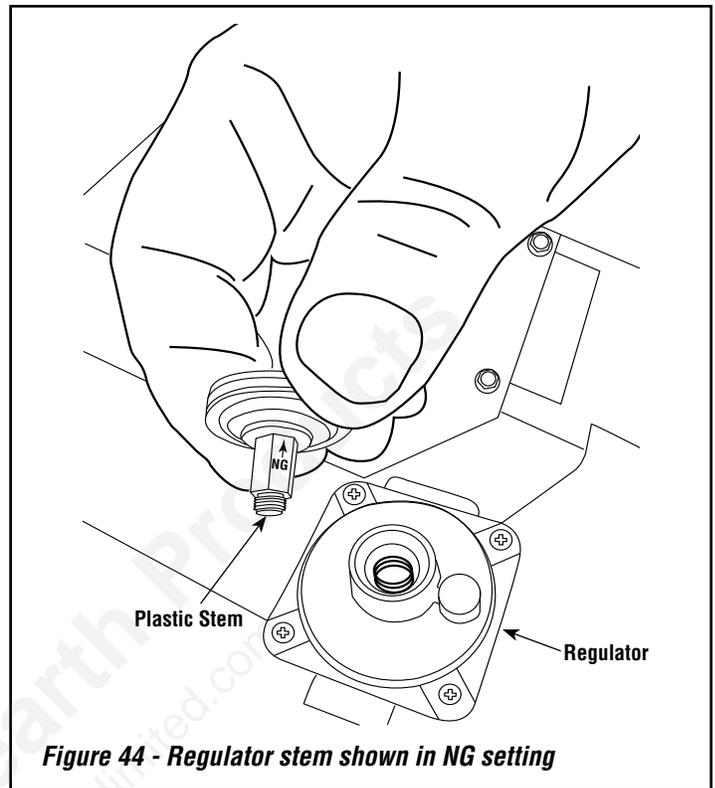

Figure 44 - Regulator stem shown in NG setting
Step 5. On the underneath side of the aluminum cap is a plastic stem. Using a 6mm wrench remove the stem, unscrew the stem (counter-clockwise ↺), turn it over and install the opposite end back into the cap. See **Figure 44**.
The gas type is determined with the arrow pointing at the aluminum cap as seen in **Figures 44 and 45**.